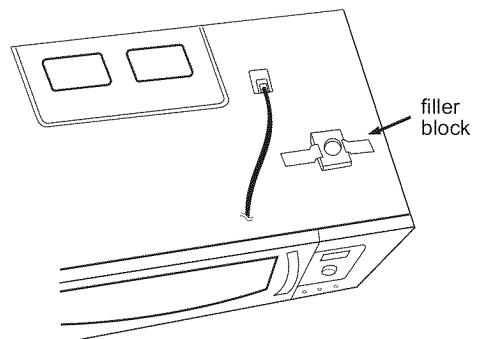

Figure 25
- Align filler blocks over the two openings in the top of the microwave oven cabinet and attach to cabinet with masking tape. See **Figure 25**.